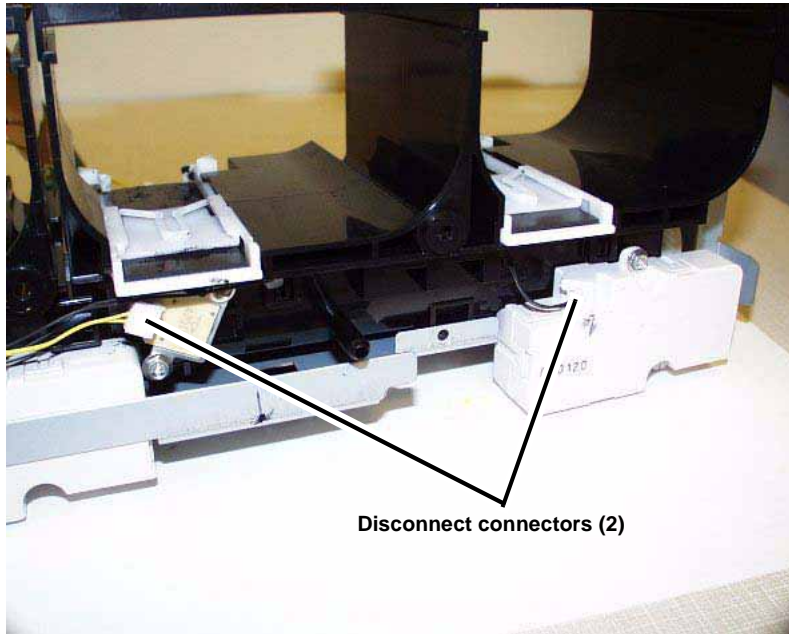

Figure 5 Disconnecting connectors
6. Disconnect connectors (Figure 5).